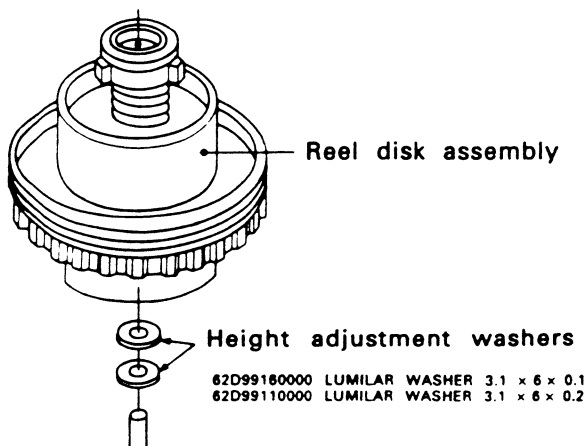

Fig.3-3 Washers for height adjustment
- d) If it is necessary to adjust the height, add or subtract the required number of height adjustment washers as shown in Fig.3-3.